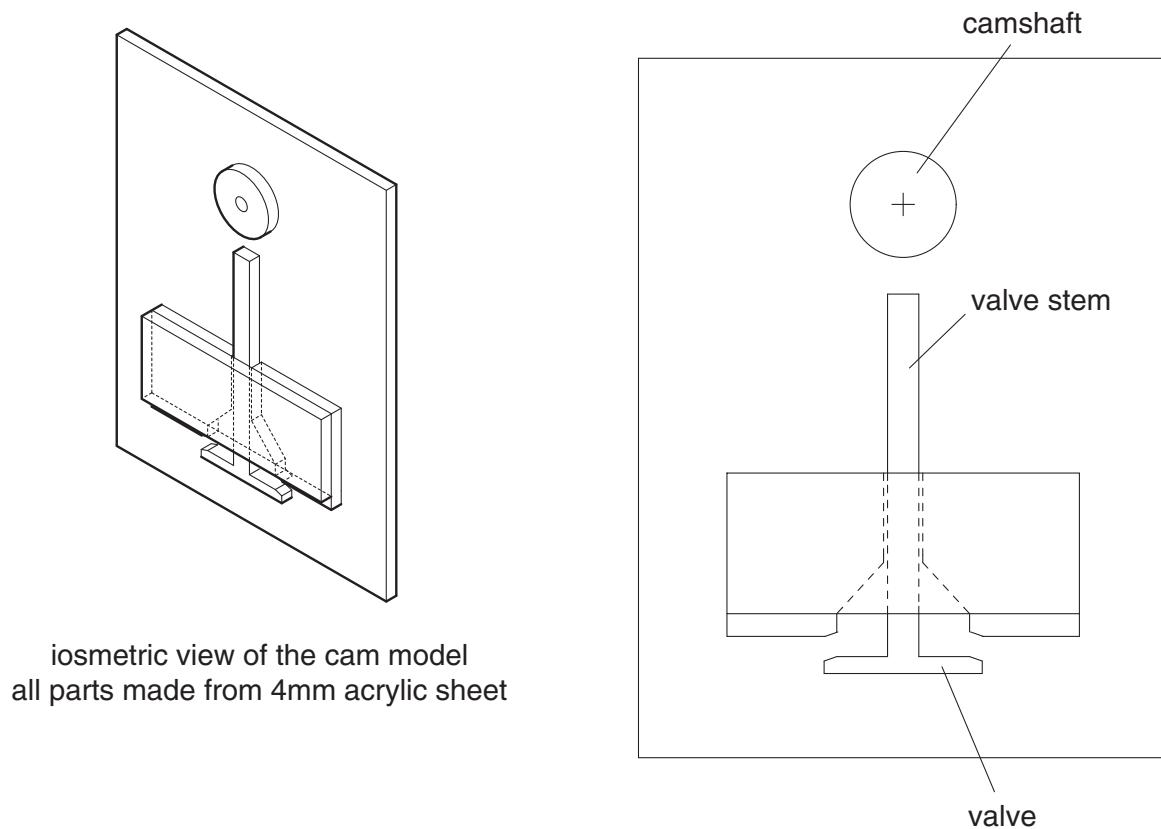

Fig. 13
Fig. 13 shows the arrangement of the components.
- (i) Draw on Fig. 13 the outline of a cam with a single rise and fall for each rotation of the camshaft. The valve is shown at its lowest position. [2]